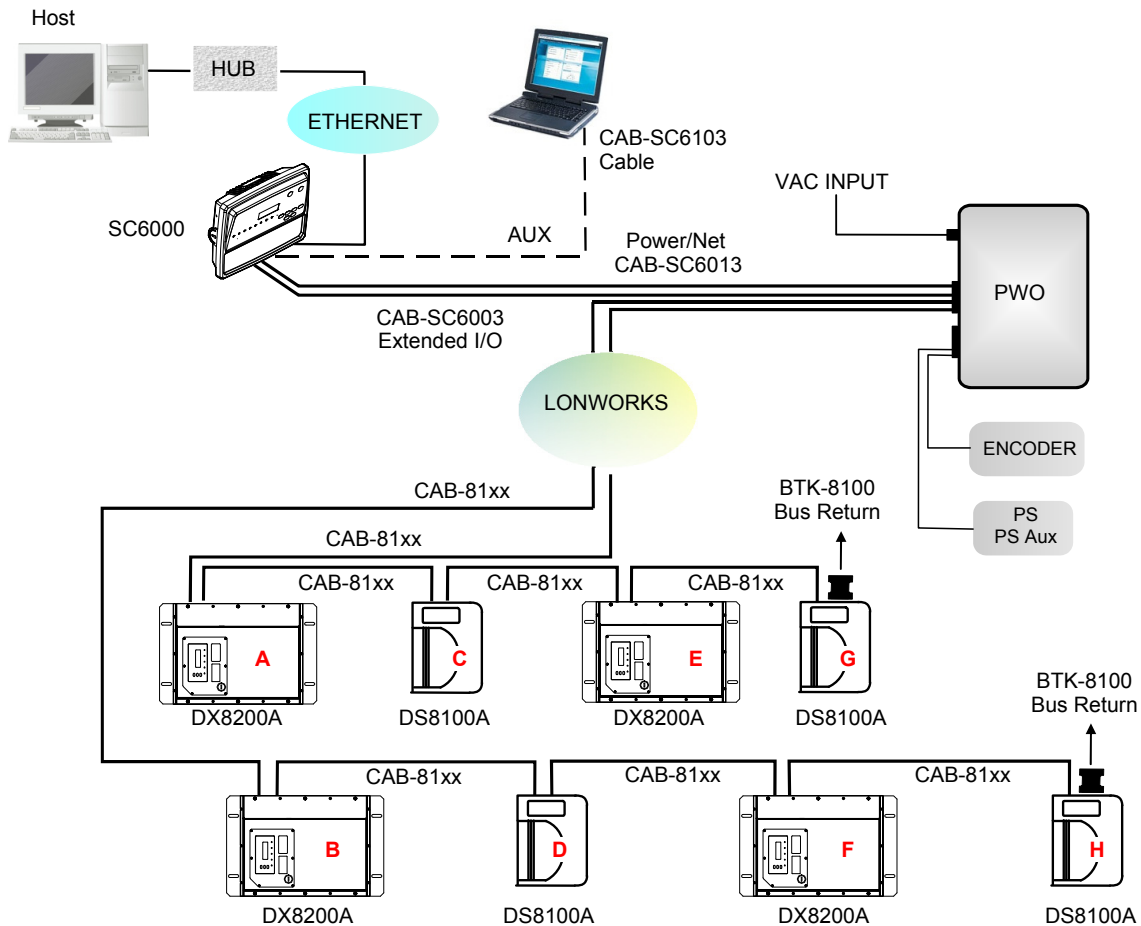

Figure 22 – Large Synchronized Network with DX8200A and DS8100A Scanners
1. Scanner distribution should alternate between odd and even branches so that the station guarantees 50% reading on all sides. See also Figure 22.